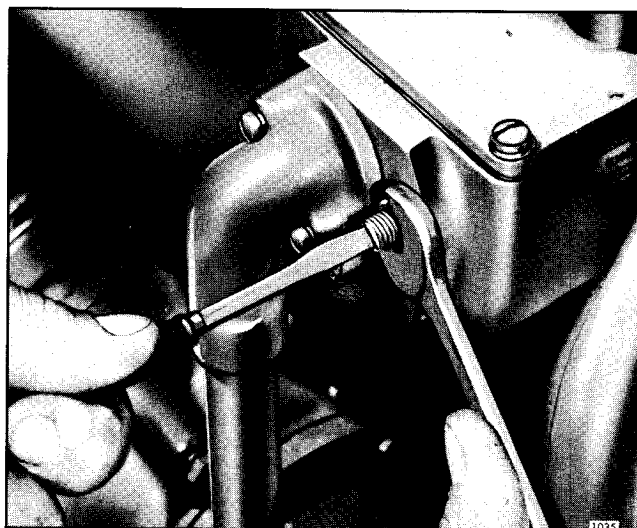

Fig. 12 - Adjusting Buffer Screw
Do not raise the engine speed more than 20 rpm with the buffer screw, otherwise it may not be possible to stop the engine. Hold the screw (46) and tighten the lock nut, Fig. 12. Stop and start the engine several times to be sure of its stopping.